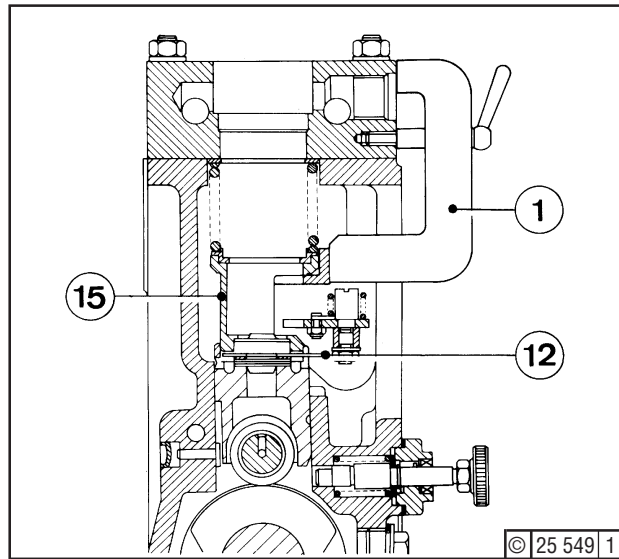

Fig. 2
Now turn the engine until the tappet roller of the relevant pump element rests on the cam peak - Fig. 2. Mount retainer device (1). This retains the support (15). Turn engine further until the roller is again resting on the cam base circle.